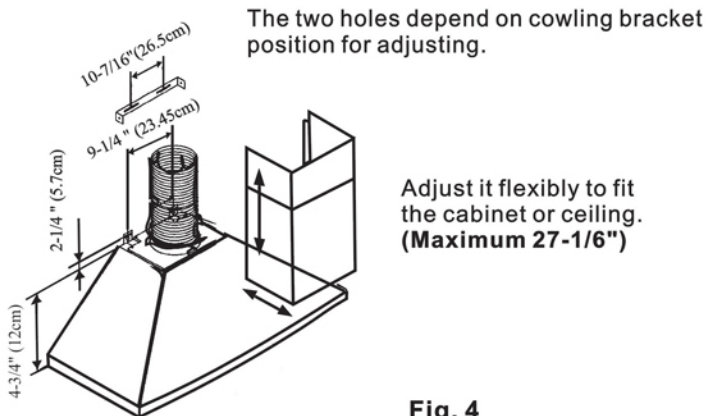

Fig. 4
Fit the Chimney hood body at the correct height via the brackets to the masonry surface, (Refer Fig. 4 for mounting screw measurements). Locate the hanging screw allowing a distance of 5 mm of the screw head to the wall.
- B. To fit the duct to the top of the canopy, slide the bottom lip under the black mounting and then lock in to place with the 4 screws provided. (**Fig. 4**)